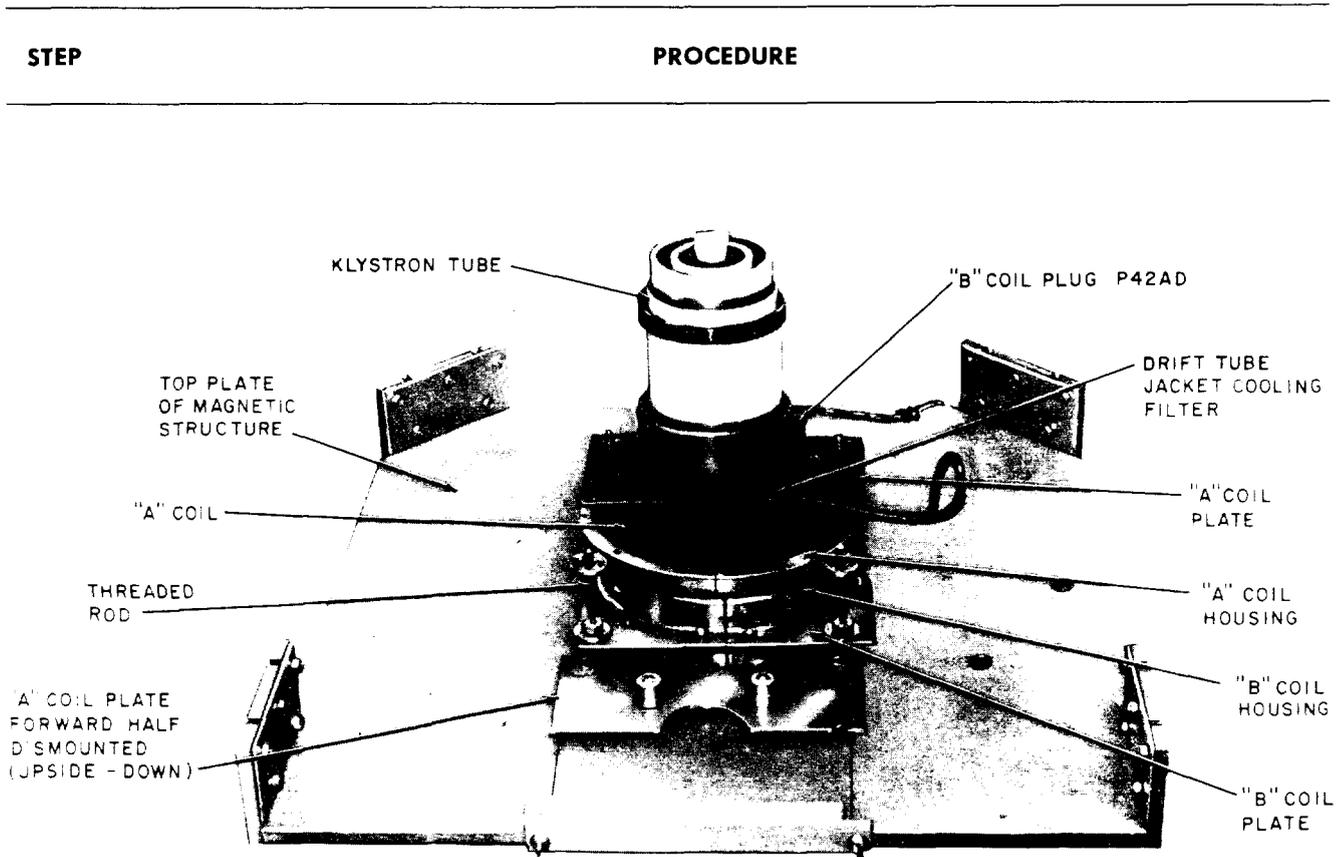

Fig. 2—Prefocus Coil Breakdown Detail—Step 1
- 6 Dismantle the prefocus coil assembly shown in Fig. 2 and 3.